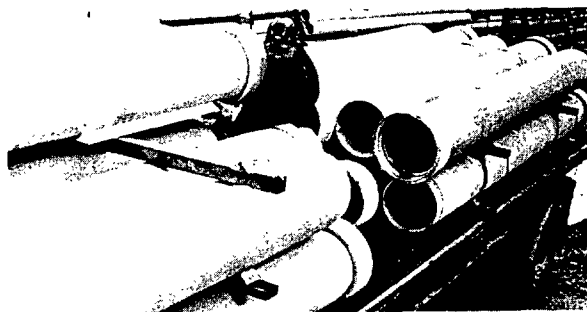

FIG. 16
10. Place chocks between the next two lengths of pipe in the top row, and unload the next outside length as shown. (Figure 16)